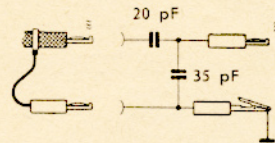

Fig. 7
- For alignment and sensitivity measurements a dummy aerial is to be used as shown in Fig. 7.
Please note: with the Neuwirth signal generator types EP 104 A and EP 104 B the additional dummy aerial, as shown in Fig. 7, is unnecessary if the signal generator is used with its own detachable dummy aerial.